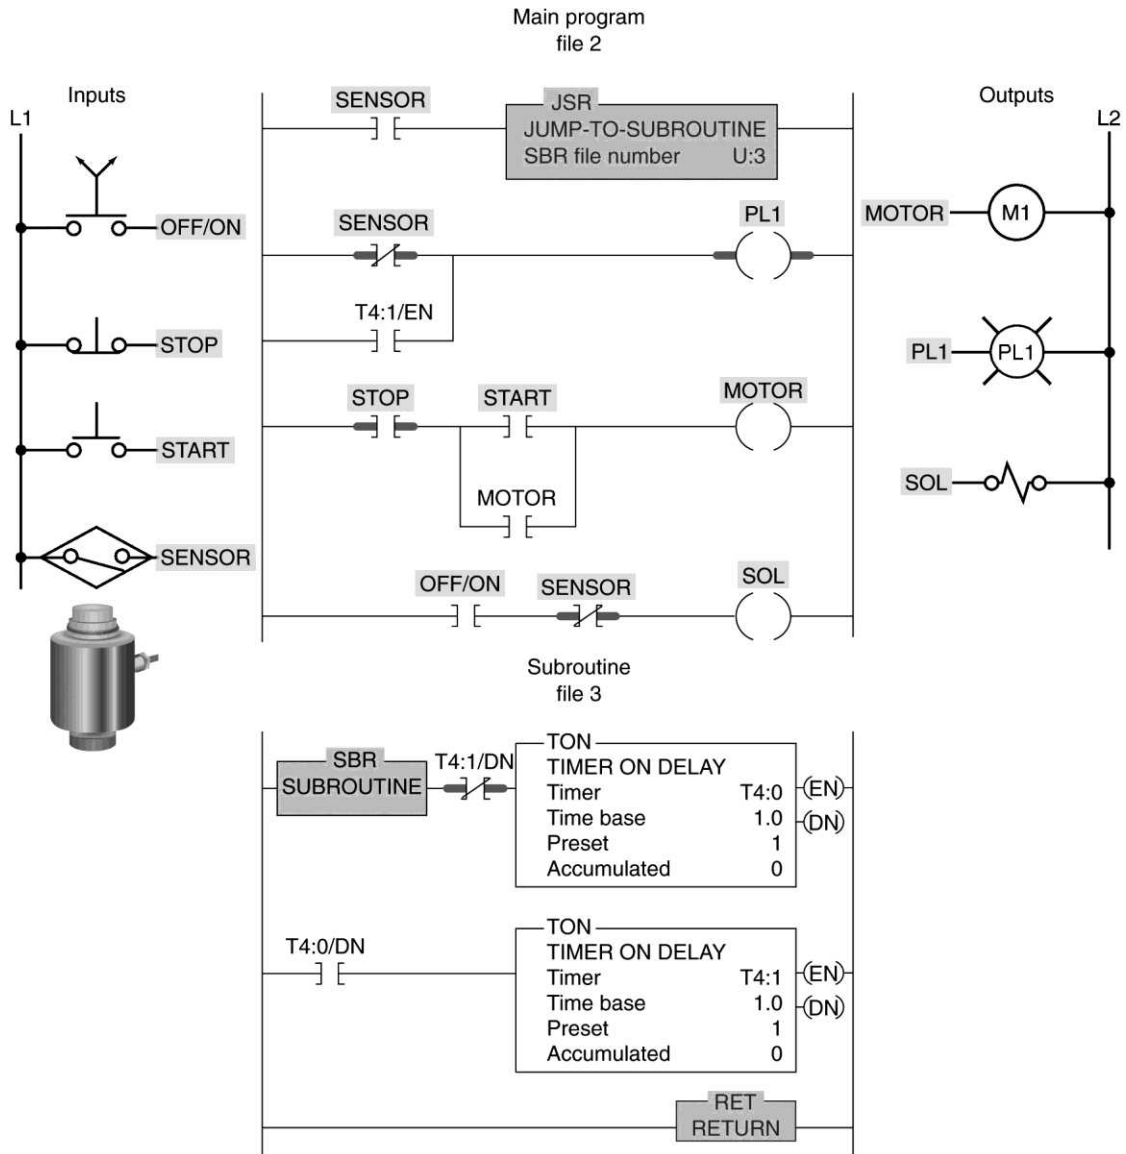

Figure 9-14 Program for assignment 6.
6) The flashing pilot light subroutine program of Figure 9-14 is described in the text. Prepare an I/O connection diagram and ladder logic program that will simulate its operation. Use addresses that apply to your PLC installation. Enter the program into the PLC, and verify its operation.